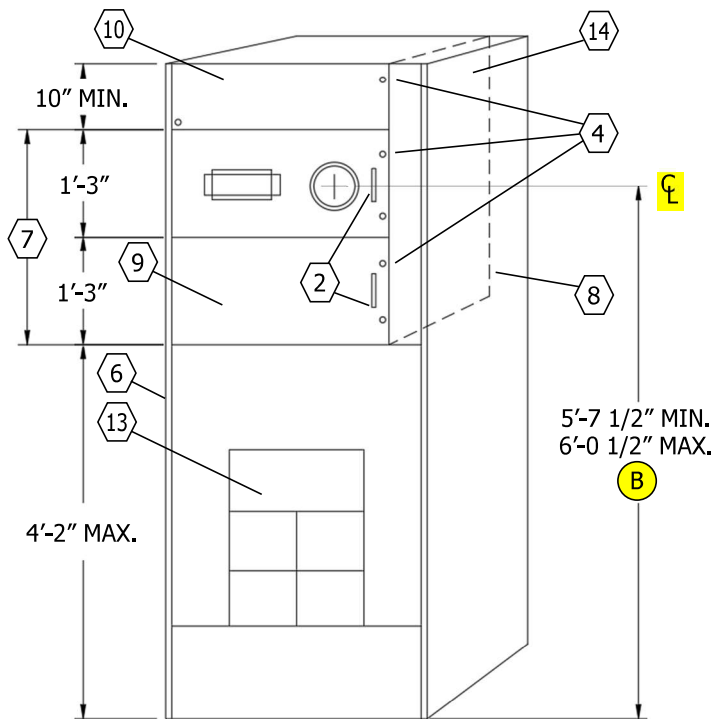

FIGURE 3 (A) (XII) (XIII)
- (A) FIGURE 3 SHOWS A SEPARATE BARRIER CREATING A LOAD WIREWAY AT THE UPPER RIGHT SIDE OF THE SWITCHBOARD IN ORDER TO ROUTE THE LOAD CONDUCTORS OUT THE TOP. LOAD CONDUCTORS MAY NOT BE ROUTED THROUGH THE INSTRUMENT TRANSFORMER COMPARTMENT IN ORDER TO EXIT THE SWITCHBOARD.
- (B) PLACING A FREE-STANDING METER PANEL ON A HOUSEKEEPING PAD RAISES THE METER HEIGHTS. GENERALLY, EQUIPMENT MANUFACTURERS MAY ALLOW 2 1/2 INCHES FOR THIS. HOUSEKEEPING PADS INSTALLED HIGHER THAN 2 1/2 INCHES MAY RAISE THE CENTERLINE OF THE METER ON THE PANEL ABOVE 6 FEET 3 INCHES. IT IS THE CUSTOMER'S RESPONSIBILITY TO ENSURE THE CENTERLINE OF METER DOES NOT EXCEED 6 FEET 3 INCHES HIGH, MEASURED FROM STANDING SURFACE OF THE WORKING SPACE.